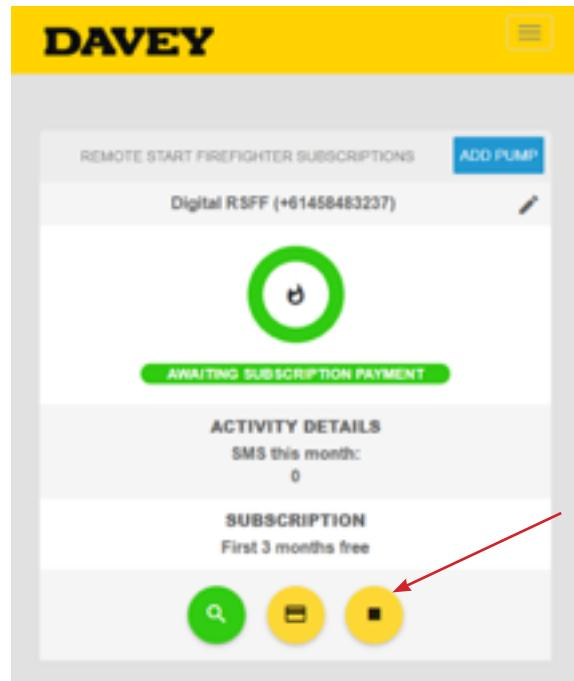

Figure 7.18
- > To stop reoccurring subscription payments, click the square to the right (*Figure 7.18*).